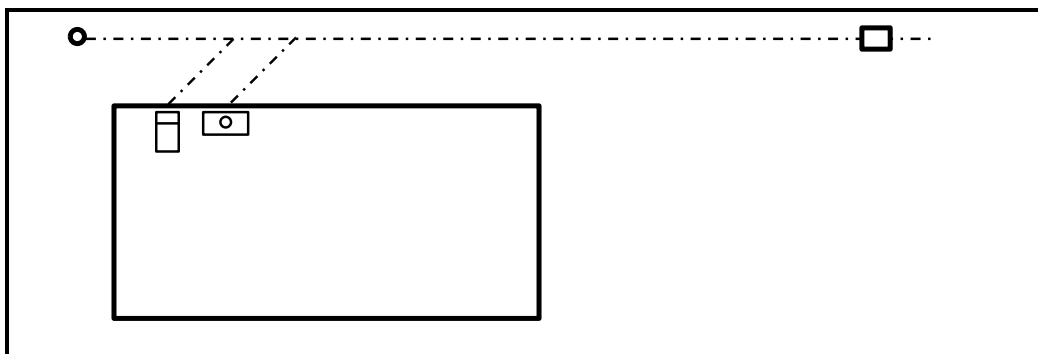

FIGURE 5.8
- 5.8 FIGURE 5.8 shows the drain lay-out, on a scale of 1 : 100, of a building with a length of 6 000 mm and width of 3 000 mm. Determine the following quantities for the drain system.